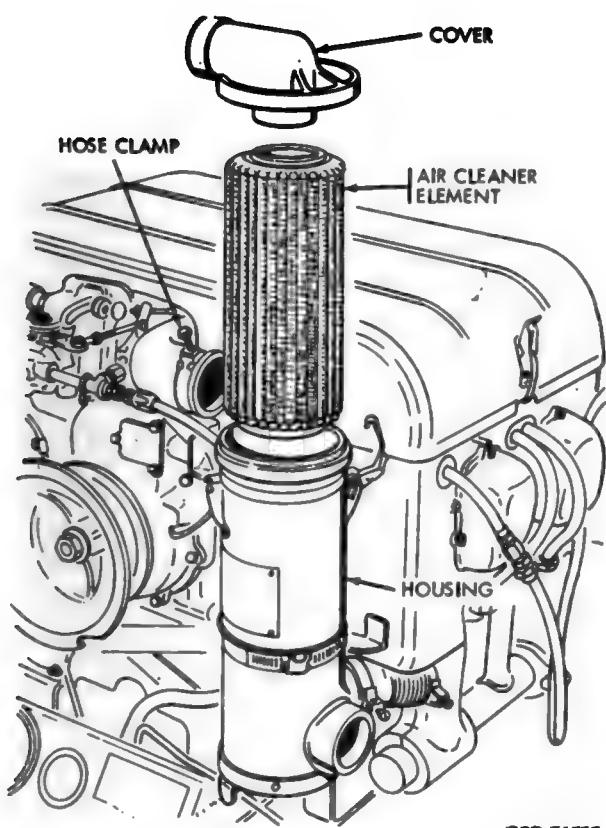

Figure 166. Air cleaner—exploded view.
a. *Service Air Cleaner.* Loosen the hose clamp and unhook the catch holding the air cleaner cover to the housing (fig. 166). Remove the element and blow it free of dust with low-pressure compressed air. Wash ele-